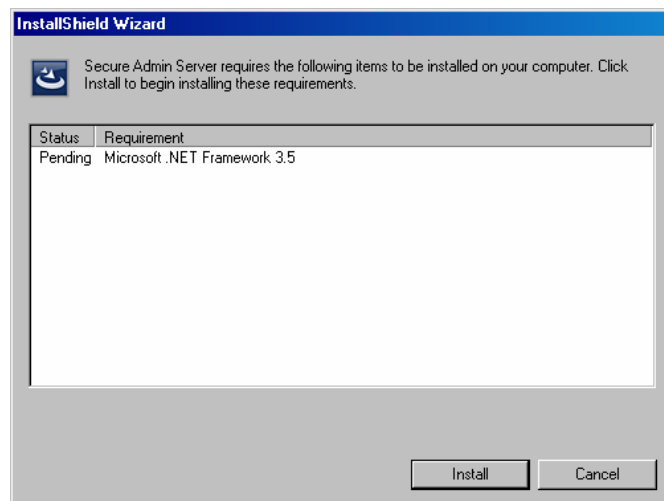

Figure 3-2: Prerequisites
2. Click **Server Installation**. The InstallShield Wizard starts and the target system is examined for prerequisite software. Any necessary software is listed (see Figure 3-2).